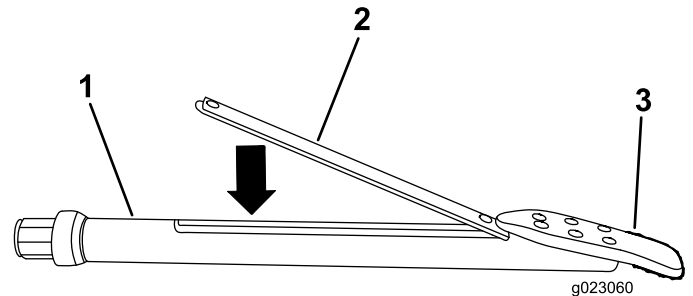

Figure 39
3. Insert the sonde beacon with the forward end toward the drill bit into the sonde housing (Figure 39).